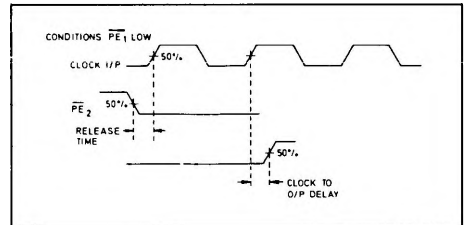

Fig. 4 Release timing diagram
- Release time is defined as the minimum time that can elapse between a H \rightarrow L transition of a control input and the next L \rightarrow H clock pulse to ensure that the $\bar{\phi}7$ mode is forced by that clock pulse (see Fig. 4).